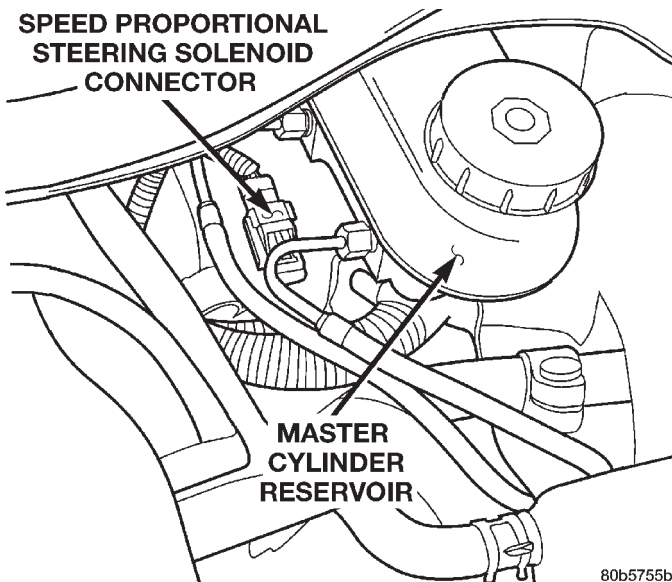

Fig. 2 Wiring Harness Connection
(1) Disconnect the solenoid control valve electrical connector from the wiring harness at the power steering gear end cap below the brake master cylinder (Fig. 2).